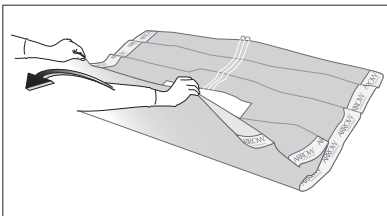

Figure 15
- Unfold towards hand (refer to Figure 15).